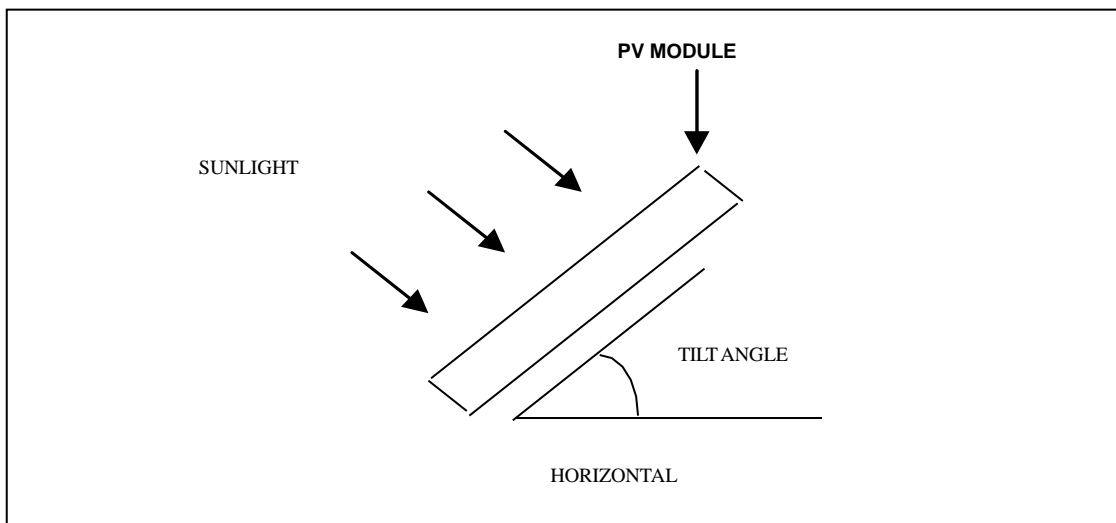

Fig. 7-1 Tilt angle
- ① For the area 0-50m away from the coastline, Risen Energy will implement the offshore module standards. For specific plans, please communicate with Risen technical team for confirmation.
- ② For areas 50-1000m away from the coastline, please use coastal modules. During the installation process, if the unboxed component connectors needs to be left empty at the installation site for a long time, please install a dust-proof plug; When removing the dust plug, the connection of the connectors should be completed as soon as possible; For support parts that are in direct contact with the module frame, it is recommended to use stainless steel or aluminum materials, and take anti-rust measures at the contact parts; It is not recommended to use steel frames for the frame, and secure the component connectors in a location where they are protected from rain.
- ③ For offshore areas beyond 1000m from the coastline, conventional modules can be used, but please communicate with Risen technical team for advice. During installation, secure the component connectors in a location where they are protected from rain.
④ If Risen modules are used in offshore environment projects without evaluation, Risen will not assume any responsibility if the modules fail due to environmental factors.
- Installation inclination refers to the Angle between the solar photovoltaic module and the ground plane, as shown in Figure 7-1.